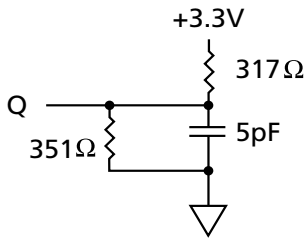
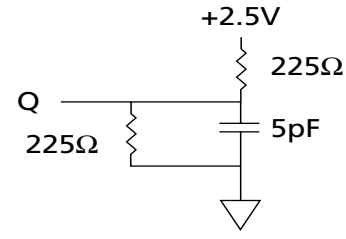

Figure 2
Figure 4
- The load used for V_{OH}, V_{OL} testing is shown in Figure 2 for 3.3V I/O and Figure 4 for 2.5V I/O. AC load current is higher than the stated DC values. AC I/O curves are available upon request.
3. This parameter is measured with the output loading shown in Figure 2 for 3.3V I/O and Figure 4 for 2.5V I/O.